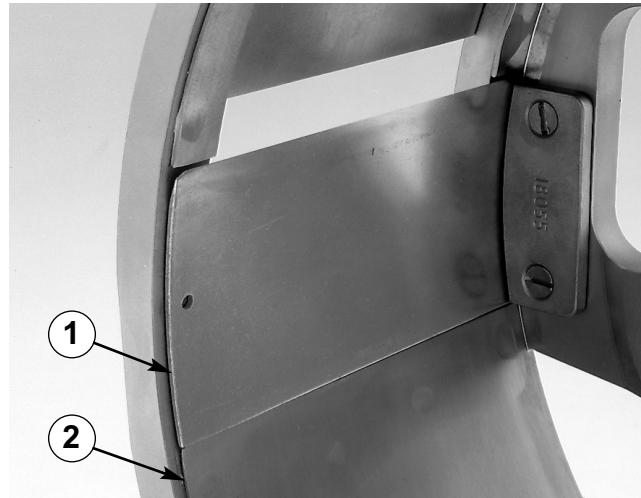

Figure 22 — Slicing knife properly seated. (1) Slicing Knife, (2) Inner Band of Slicing Case.
5. **Install slicing knife.** Slide knife into seat in slicing case. Knife is fully seated when outer edge of knife lines up with the edge of the inner band of slicing case and the back edge of the knife is against the end of the inner band (Figure 22).